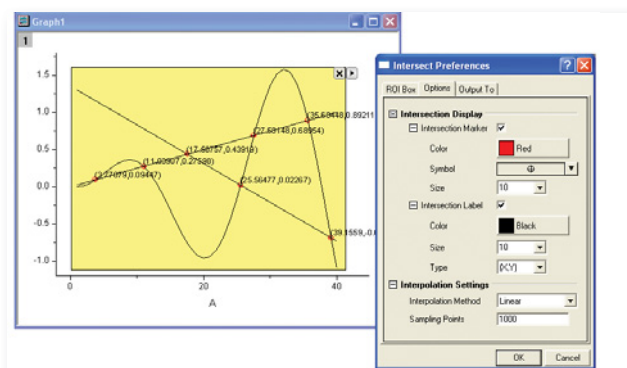

FIGURE 4: The Intersect Gadget tags and labels all curve intersections within the region of interest.
- The **Intersect Gadget** tags and labels all curve intersections within the ROI, as shown in Figure 4.